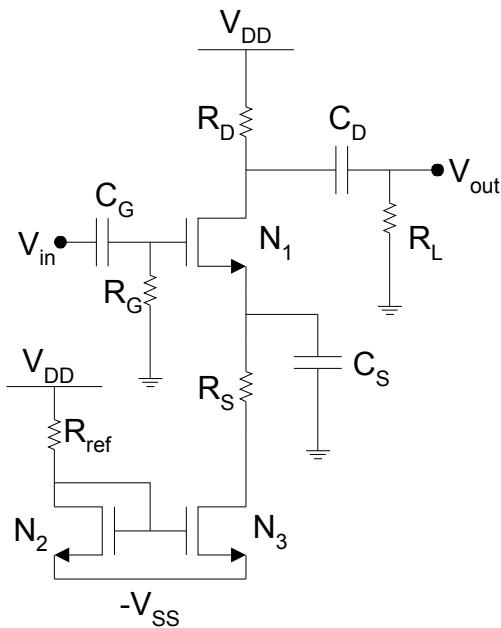
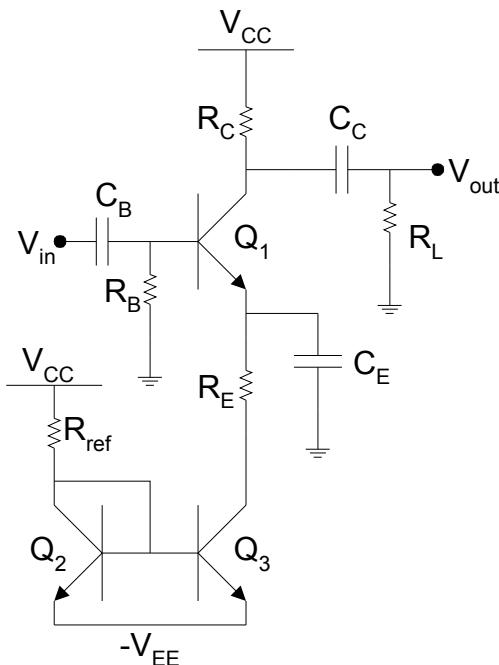

Figure 1. NMOS common source amplifier with current sink for biasing.
Figure 2. NPN BJT common emitter amplifier with current sink for biasing the amplifier.
A common source amplifier with a current sink for setting the bias current is shown in figure 1. Transistor N_1 is used for the common source amplifier, while the pair $N_2 - N_3$ forms a current sink to bias N_1 . The gate resistor R_G should have a large value, and is used to ensure a DC bias of 0V at the gate of N_1 . The resistors R_D and R_S are used to set the appropriate bias voltages at the drain and source terminals. The coupling capacitors C_G and C_D are used to ensure the gate and drain terminals are isolated from the input and output, respectively, under DC conditions. The bypass capacitor C_S ensures that the source terminal is essentially grounded at the signal frequencies.
A BJT common emitter amplifier circuit is shown in figure 2. The circuit operates in a similar manner to the NMOS CS amplifier in figure 1. Transistor Q₁ is the amplifier, while the transistor pair Q₂ and Q₃ forms a current sink. The resistor values in the circuit are chosen so that the collector current of the BJT is 1 mA, which is the approximate drain current of the CS amplifier you are to design. Note that the resistor values are not necessarily the same for the two circuits. The component values are given in Table 2.
1. **NMOS common source amplifier design:** Complete the design of NMOS CS amplifier circuit given in figure 1 to meet the specifications given in Table 1. Show the details of your calculations and explain your reasoning for your design choices. Use DC analysis to determine your bias component values and small signal analysis to calculate the input resistance, output resistance, and open-circuit voltage gain A_{vo} of your design, i.e. the gain without R_L . Propose a method to limit the voltage swing at the output (V_{out}) between -1V and +5.5V
3. **BJT CE amplifier simulation:** Do the same simulations in task 2 for the BJT CE amplifier circuit shown in figure 2, with the values given in table 2. How does this circuit compare with the NMOS CS amplifier?